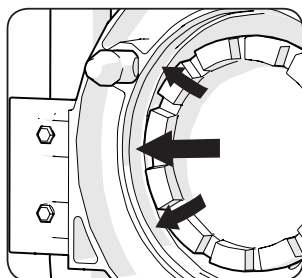

Fig 25
- The female annular ring is located around the accessory input shaft. **(Fig. 25)**